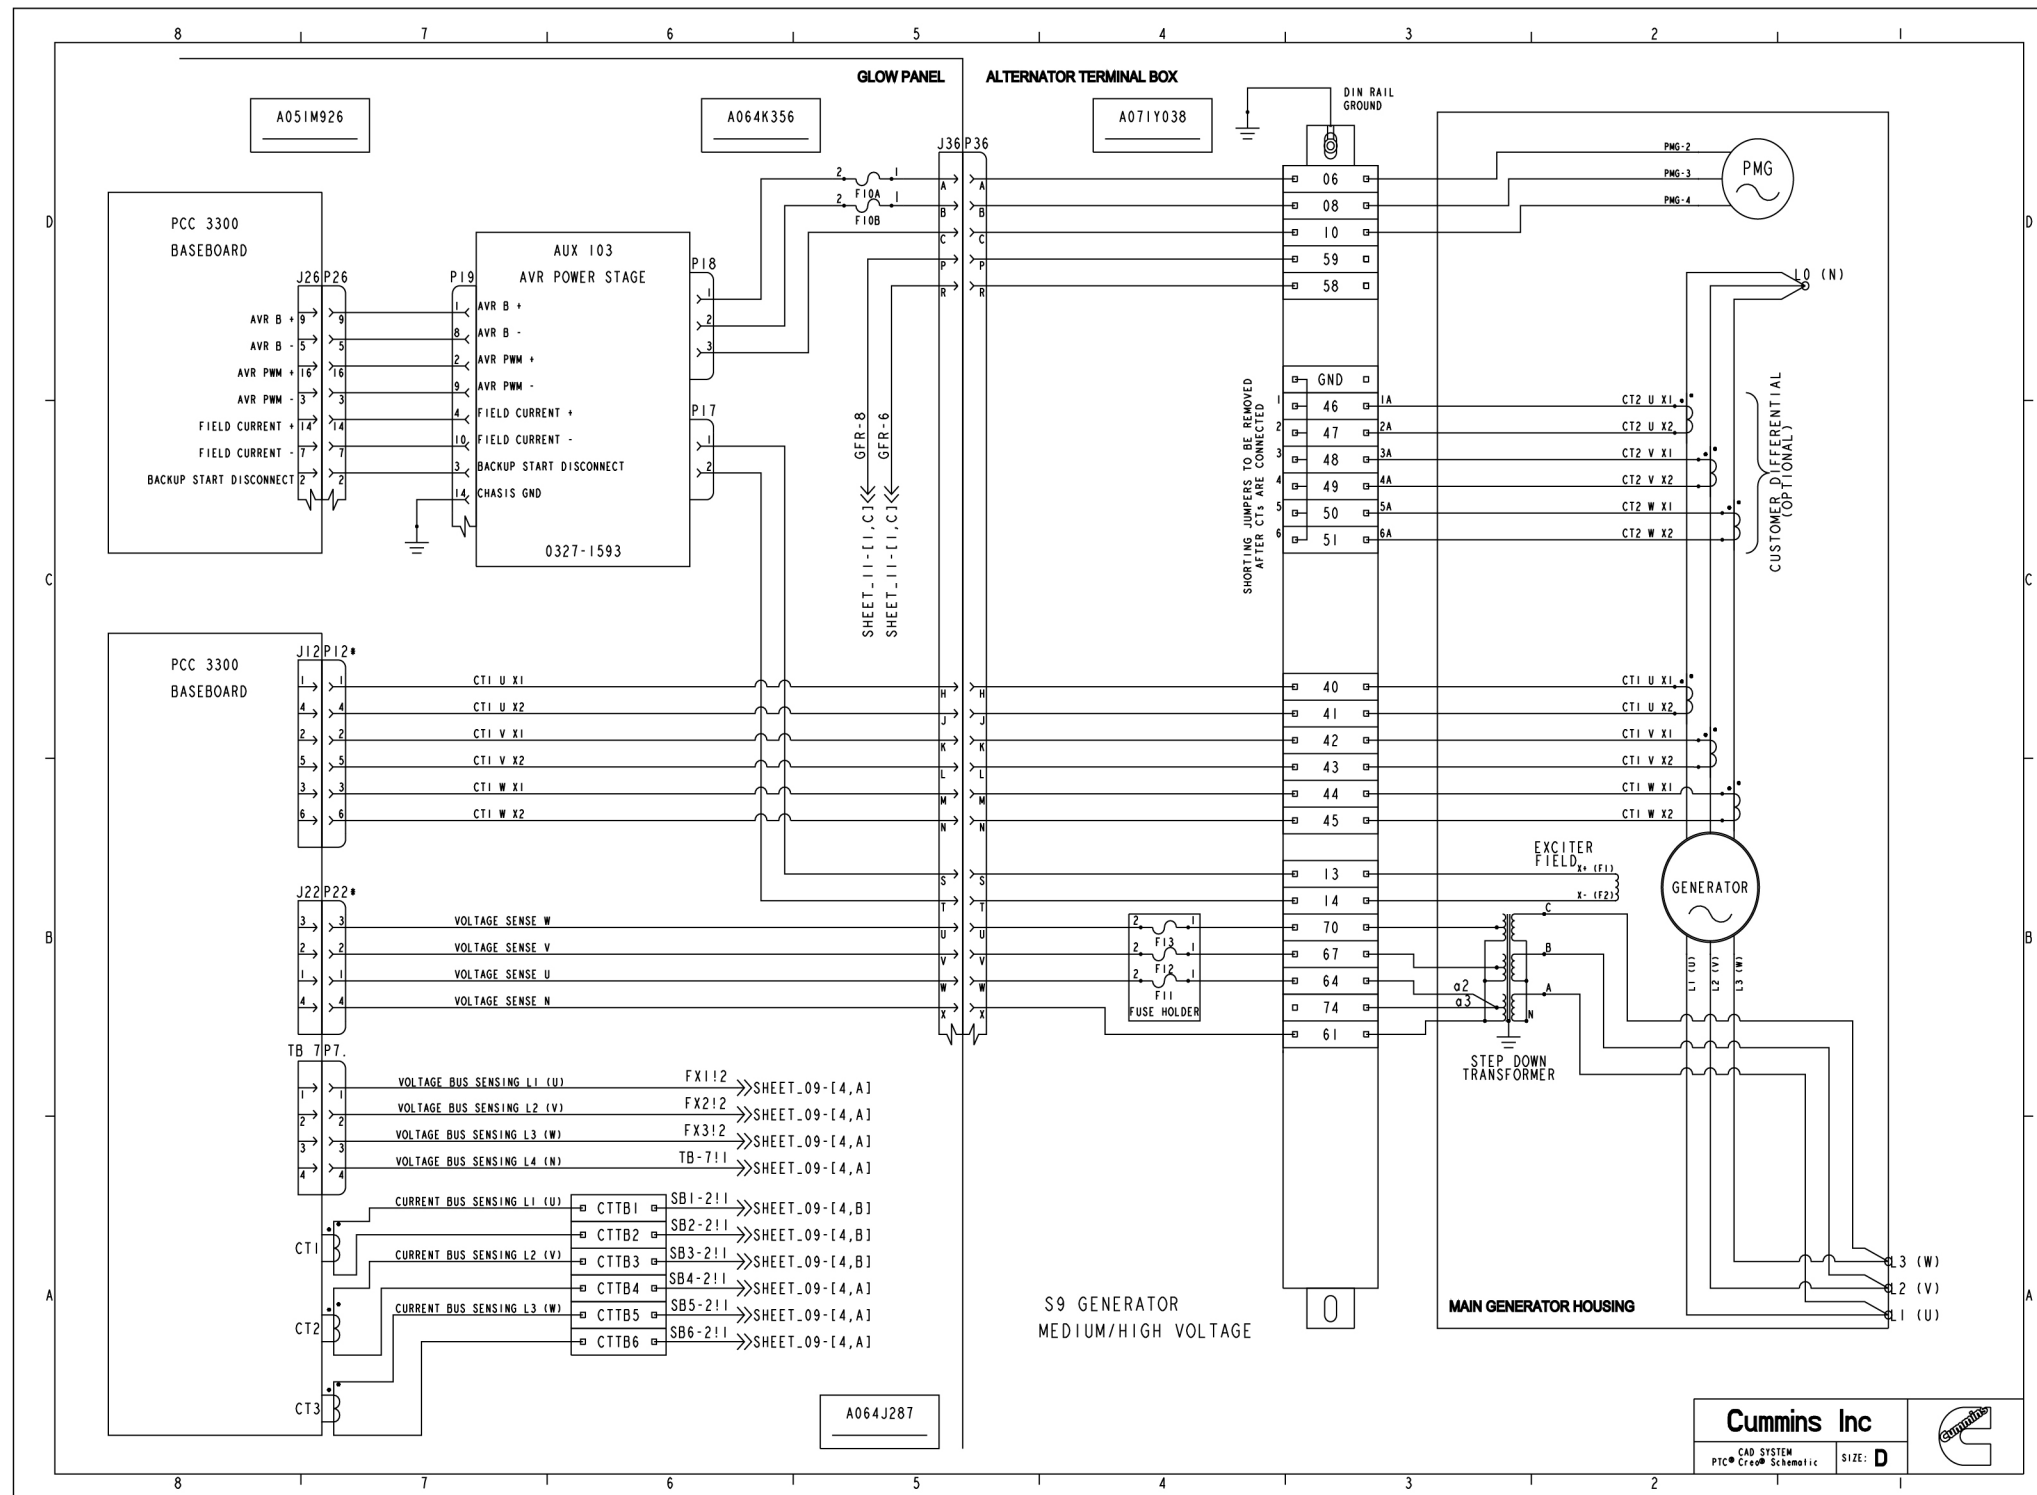

FIGURE 90. WIRING SCHEMATIC (SHEET 6)
- Figure 90. Wiring Schematic (Sheet 6) 394